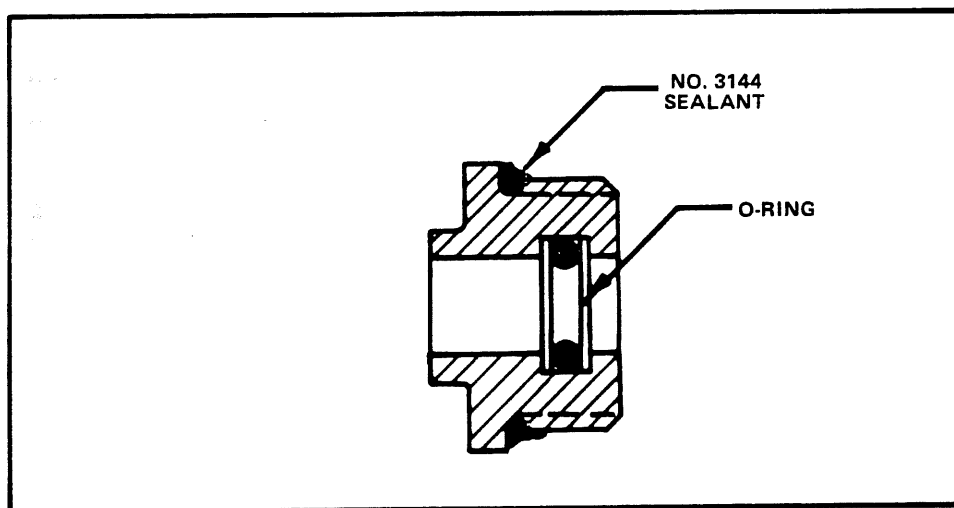

Figure 24. Lubrication of the O-rings and sealing for the cam-switches.
STEP 24. Install cam switch inserts (see Figure 24)**A. INSERT, SHAFT SEAL (2 ea.)**
- (1) 1502 TPN 377-0451-00, MPL Item 2-155.
- (2) 1503 TPN 377-0451-00, MPL Item 2-100.
- (1) Apply G-661 lubricant to O-ring and install as shown in Figure 24.
- (2) Form a bead of No. 3144 sealant around the fillet area of the insert.
- (3) Install the two inserts in the Front Panel. Tighten until snug, then back off 2° to 3°. Remove any excess sealant.